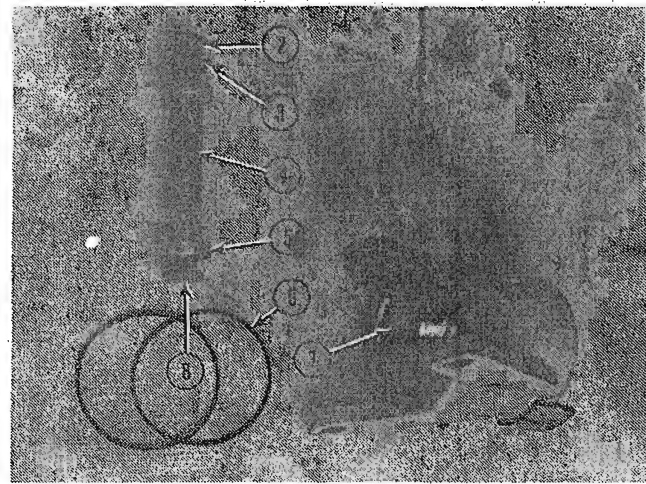

FIG. 6
To clarify identification of components associated with the articulating hinge pin, see Fig. 6.
- (2, Fig. 6) Castellated Nut
- (3, Fig. 6) Thrust Washer
- (4, Fig. 6) Spacer Tube
- (5, Fig. 6) Ball Bearing
- (6, Fig. 6) "O" Rings
- (7, Fig. 6) "Gooseneck" Central Support Weldment
- (8, Fig. 6) Articulating Hinge Pin